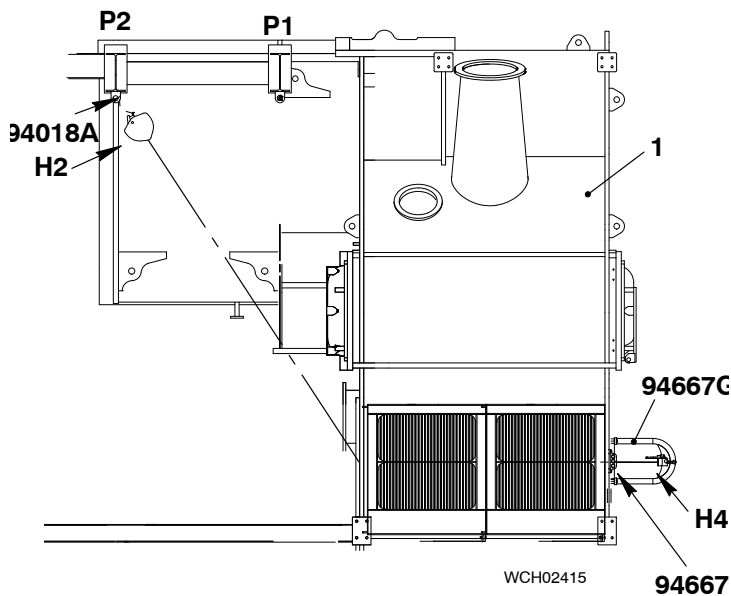

Fig. 12
- 6) Remove the manual ratchets (H1, H2, H3 and H4, Fig. 12).